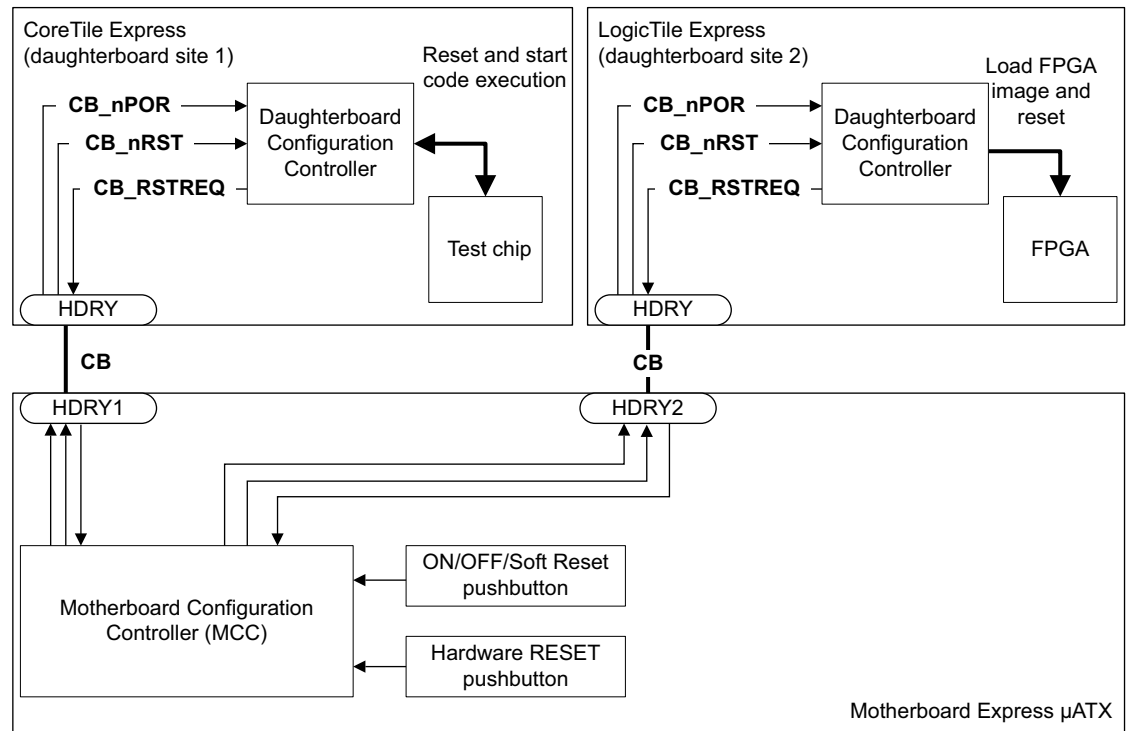

Figure 2-2 Reset signals
Figure 2-2 shows the power-on **ON/OFF/Soft Reset** push button and **Hardware RESET** push-button signals in the system.
2. The Daughterboard Configuration Controller asserts **CB_RSTREQ** to the MCC on the motherboard. See Figure 2-2 on page 2-6.